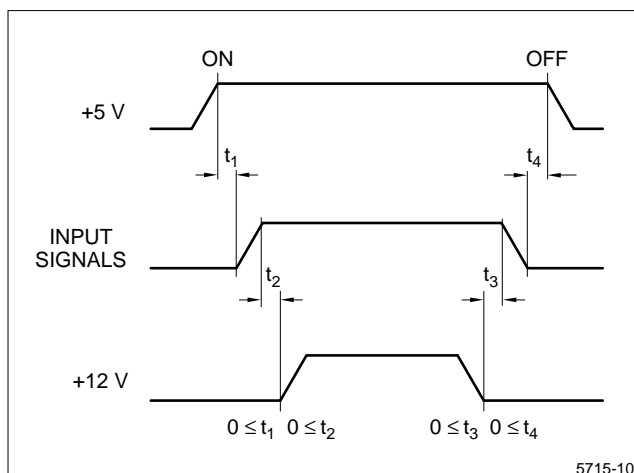

Figure 10. Power ON/OFF Sequential Timing
- Power ON/OFF sequential timing – To prevent the latch-up of the circuit in the module, keep the sequential timing between input signals and supply voltages as shown in Figure 10.